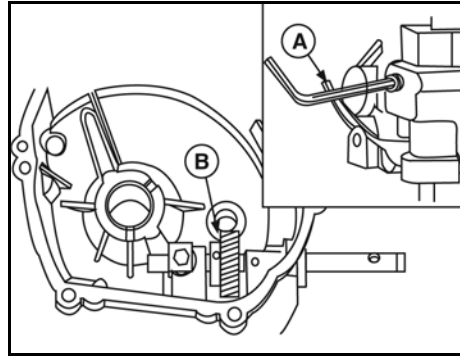

Figure 24
2. To remove auxiliary PTO shaft from sump, remove Allen screw (A, Figure 24) from bottom of sump. The slinger, camshaft, and worm gear assembly will remain in the cylinder.